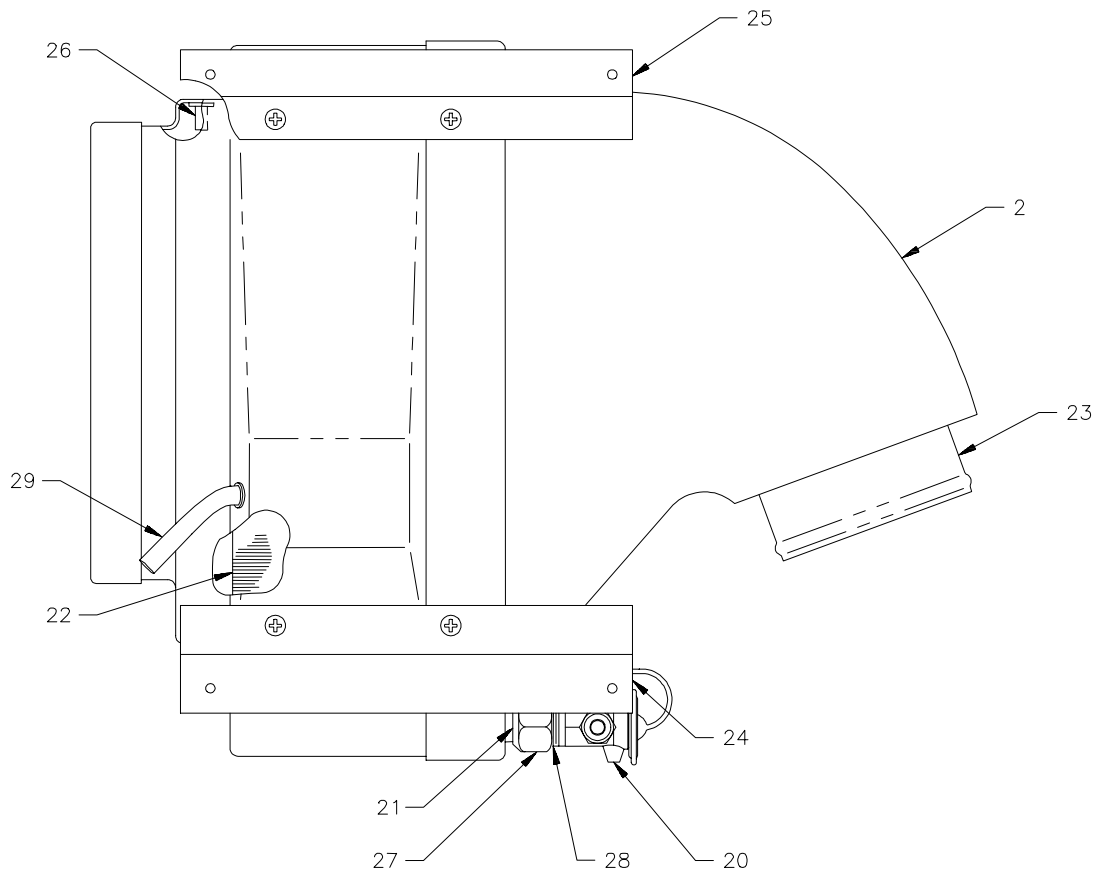

Figure 1
3. EVAPORATOR MAINTENANCE PROCEDURES (REF. IPL Fig. 1)
IPL FIGURE 1